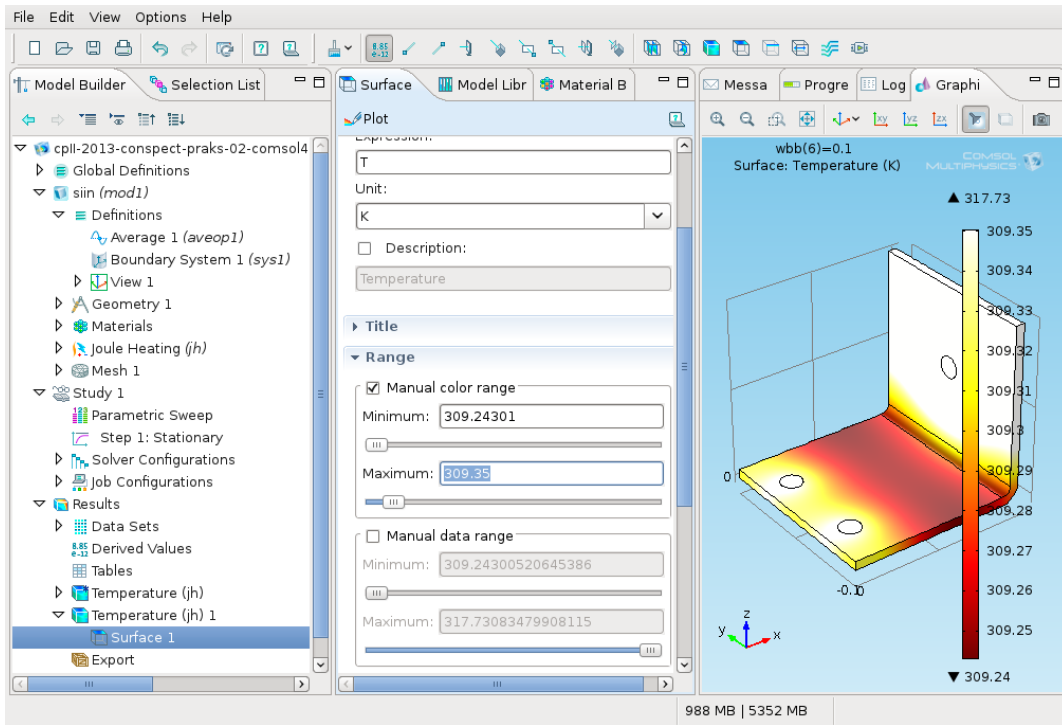

Figure 33: Changing the temperature plot for the 10 cm wide busbar.
- 1 *Temperature (jh) 1* → *Surface* → *Range* → *Manual color range (check box)* → *Maximum = 309.35* (Fig. 33).